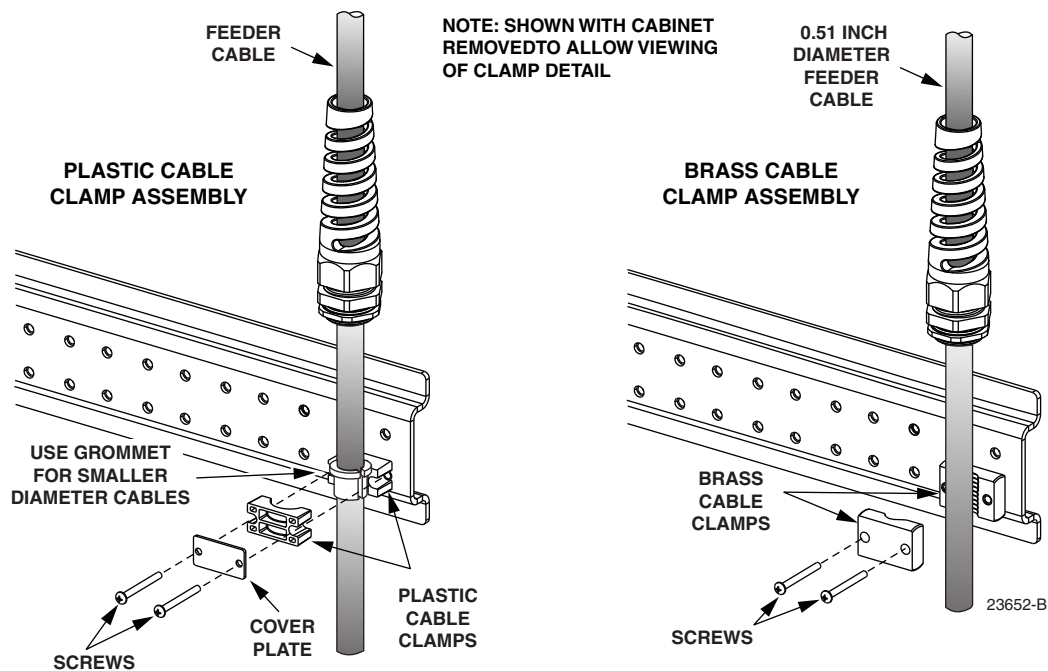

Figure 18. Assembling Feeder Cable Clamp
12. Depending on the cabinet option, either a plastic or brass clamp will be provided with the cabinet. Assemble the cable clamp on the feeder cable as shown in Figure 18.